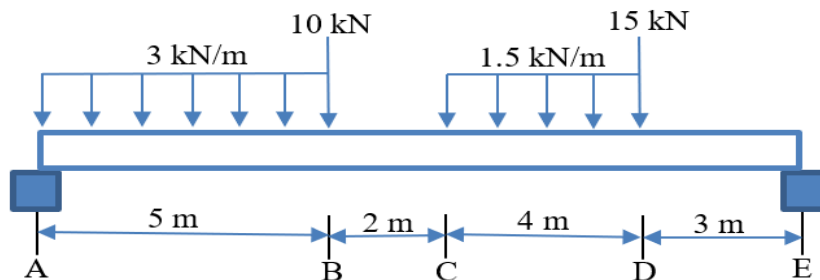

Figure 2 / Rajah 2
A beam with 14 m length is a simply supported and fixed at both ends. The loads are applied as shown in Figure 2 below.
- a) Referring to Figure 2, with the aid of free body diagram for the beam, express the value of reaction force.